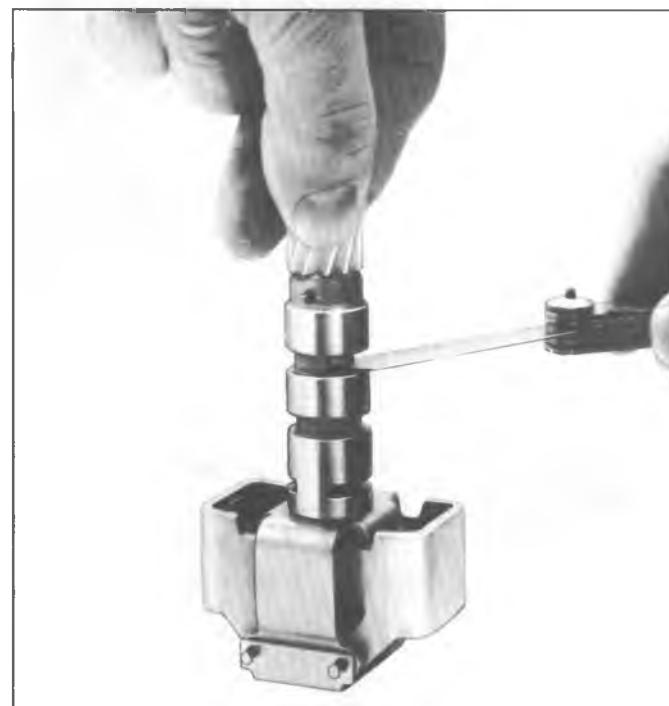

Fig. 7A-58C--Checking Valve Opening With Weights Outward
1. Cut off one end of each governor weight pin and remove pins, governor thrust cap, governor weights, and springs. Governor weights are interchangeable from side to side and need not be identified. (Fig. 7A-57C).